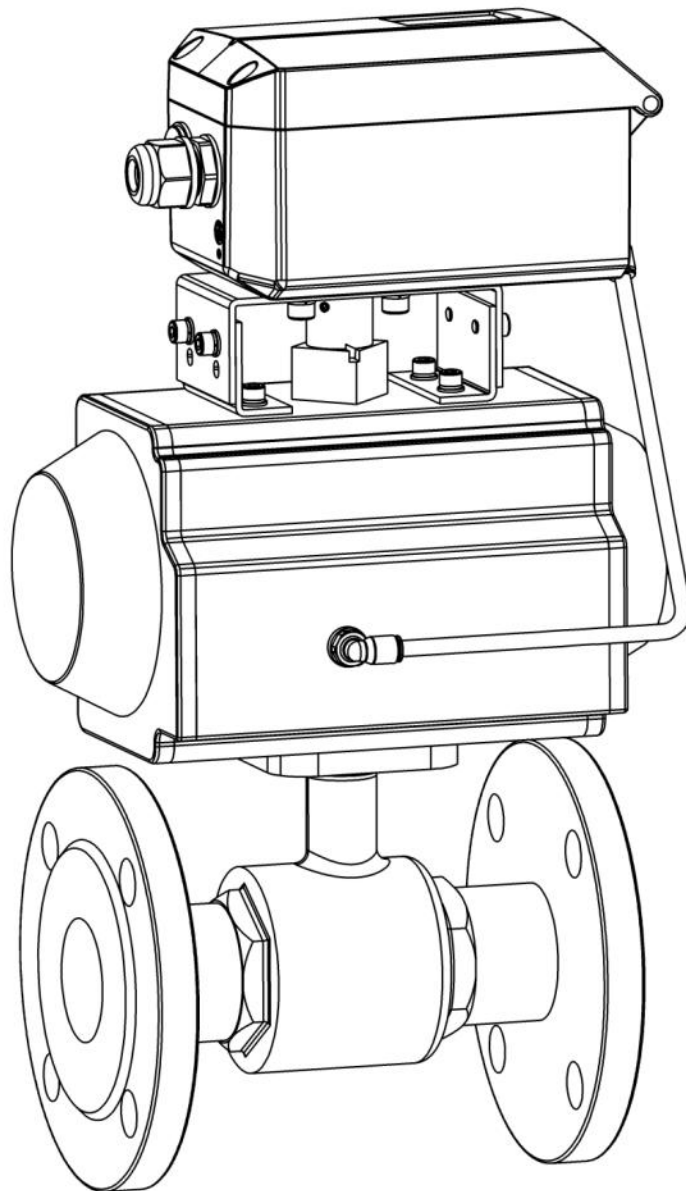

Figure 36. Rotary stroke for normal type
- Adjust the adjusting nut of the displacement sensor. Then measure the D value (as shown in Figure 36) by **the depth ruler** in the state of the displacement sensor being completely